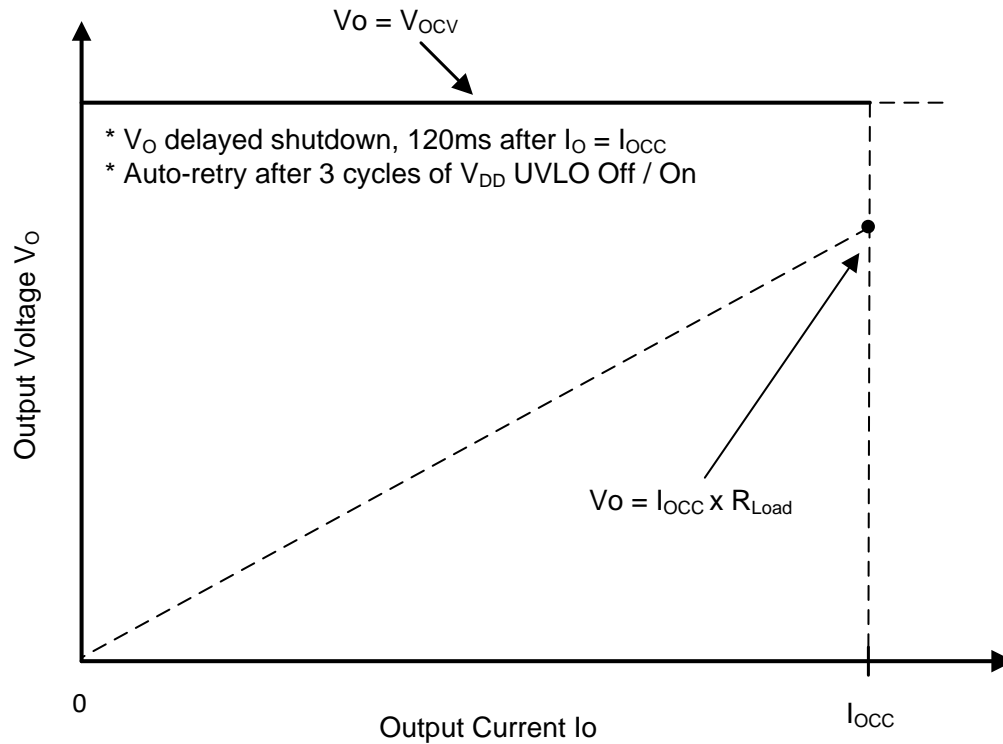
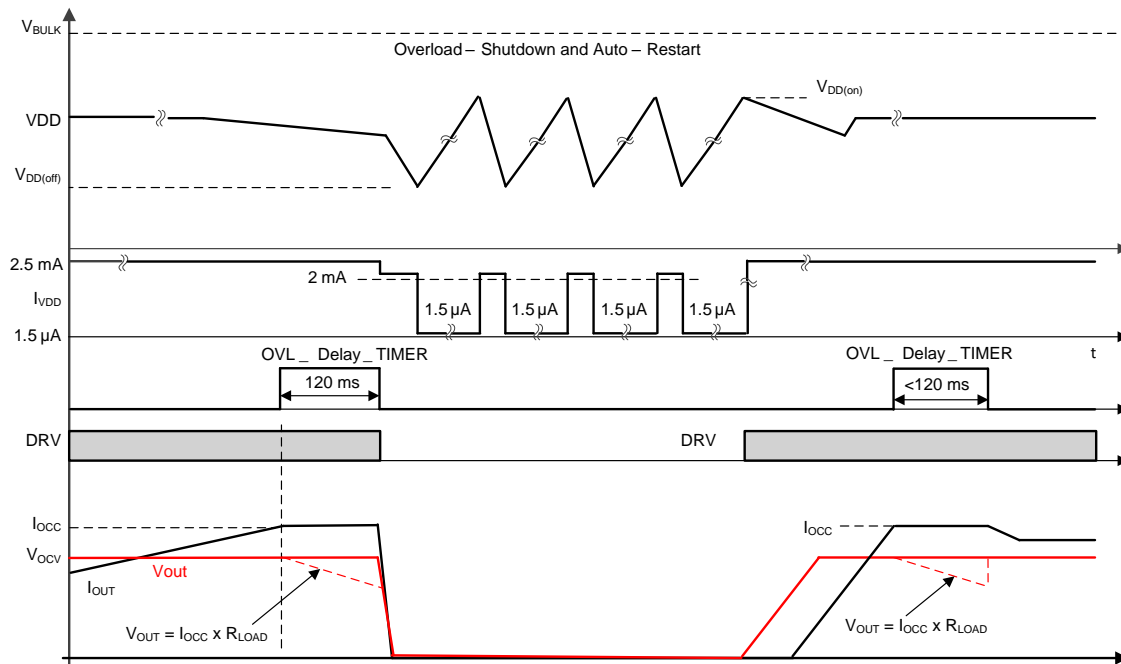

图 14. Typical Target Output V-I Characteristics
图 15. Output Delayed Shutdown Timing
As shown in 图 14 below, CV mode operation is from  $I_O = 0$  to  $< I_{OCC}$ ; at  $I_O = I_{OCC}$ , the operation enters constant current limit mode and  $V_O$  starts to drop as the load resistance becomes further lower while  $I_O$  is maintained at  $I_{OCC}$  for a time interval specified by  $t_{OVL\_TIME}$  typically 120 ms then DRV stops to achieve converter output delayed shutdown. During the 120-ms timing interval, if load  $I_O$  reduces to  $< I_{OCC}$ , the timer will be reset and no shutdown will occur. The V-I curve corresponding to the operation is shown in 图 14, and the delayed shutdown timing diagram is shown in 图 15. Note (1) The timer  $t_{OVL\_TIME}$  is triggered whenever  $I_O$  reaches  $I_{OCC}$  and reset when  $I_O$  drops to  $< I_{OCC}$  before 120ms-time-out. (2) during 120-ms time interval, when load resistance becomes so low during constant current interval that causes the device VDD to reach its  $V_{VDD(off)}$  and then the shutdown will be through VDD undervoltage lockout instead of through Constant Current Limit and Delayed Shutdown. In such a case, the shutdown can happen before 120ms timer out.